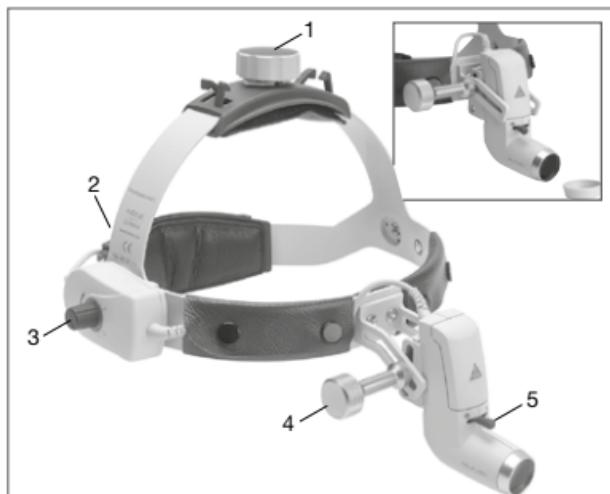

Fig. 2 Headband Professional L (see tall fig.)
Adjustment of the **headband Professional L** (see Fig. 2): To adjust for the head size, the headband can be widened or tightened by turning the turnbuckles at the top (1) and the back. (2).
### Selecting viewing angle and field of view (Fig. 2)